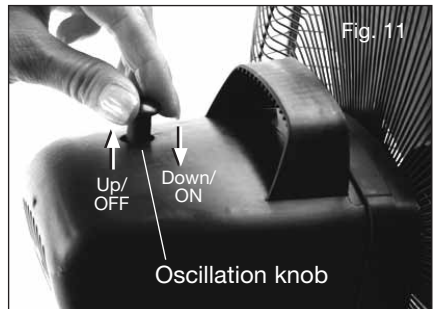

Fig. 11
- To **STOP** fan oscillation, pull the Oscillation Knob **UP**.(Fig. 11).